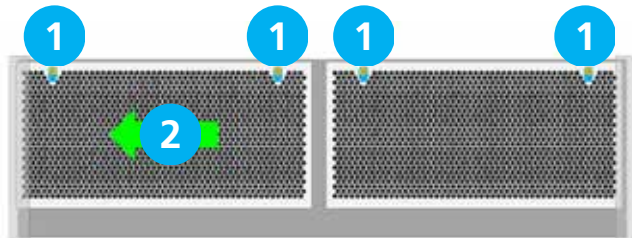

Figure 9.1 GS cover fixing point
2. GS units, Loosen (DO NOT REMOVE) the screws in the top of each front inlet cover [1] (see figure 9.1 and 10 dog bone screw fixing slot) then slide the left cover to the left [2] which will allow the cover to slide under the end cap. This will allow the next cover to be pushed to the left [3] (see figure 9.1) allowing it to be released from the screw slot [4] by pulling forward and lifted upwards out of the lower groove in the case.